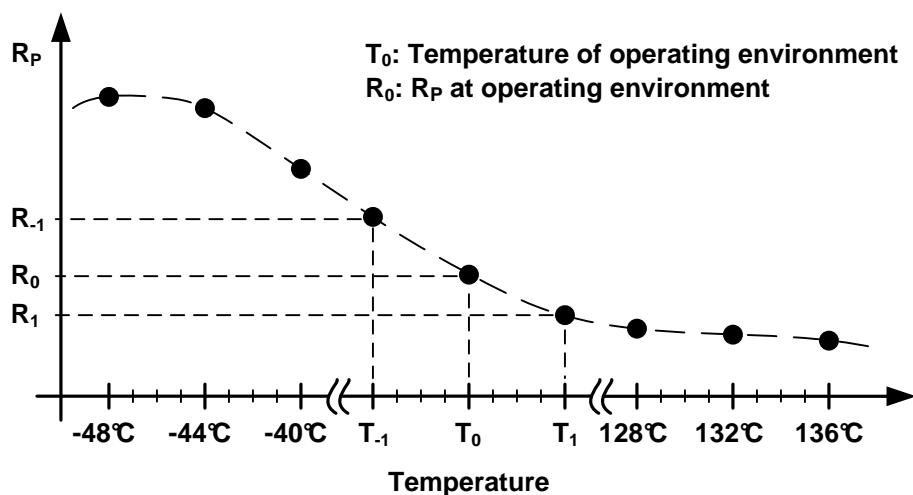
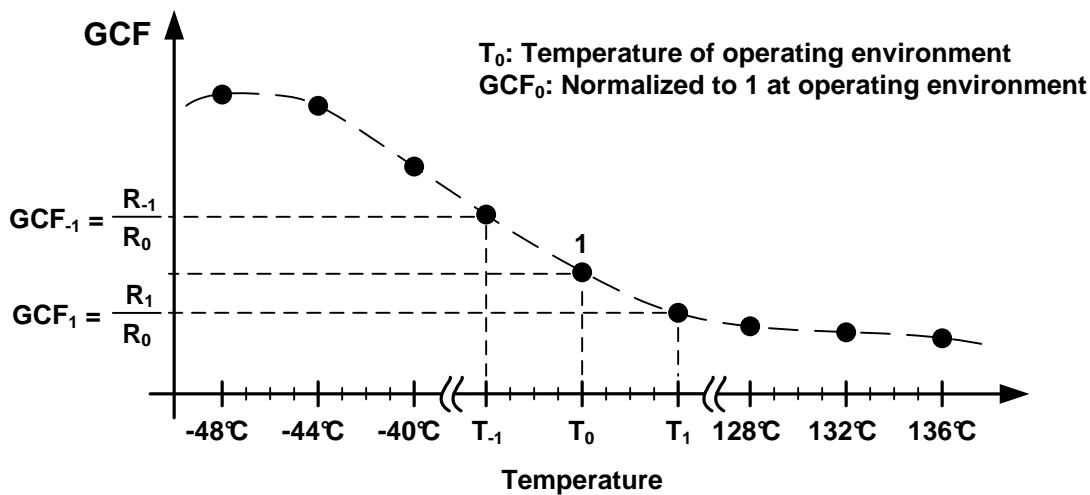

Figure 25. R_p Measurement Example
Figure 26. GCF Normalized Example
3. **Normalizing R_p :** Once all R_p values have been read and logged for the whole LUT temperature range as illustrated in Figure 25 the data must be normalized to the intended ambient operating temperature T_0 . This is done by dividing each R_p data point by R_0 , the measured R_p at the ambient operating temperature for each temperature of the LUT register. This ratio provides the gain correction factor coefficients (GCF) as shown in Figure 26. If the ambient operating temperature T_0 does not fall on one of the 4°C incremental points of the LUT then R_0 will need to be interpolated.